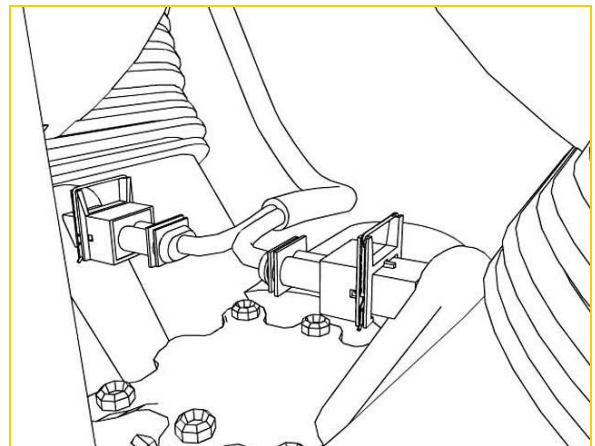

Fig 6
8. View from left, stock. (Fig 6)